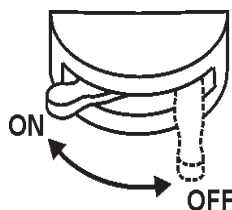

Figure 36. Battery ON/OFF Switch
5. Set the battery switch to "ON" (Figure 36).